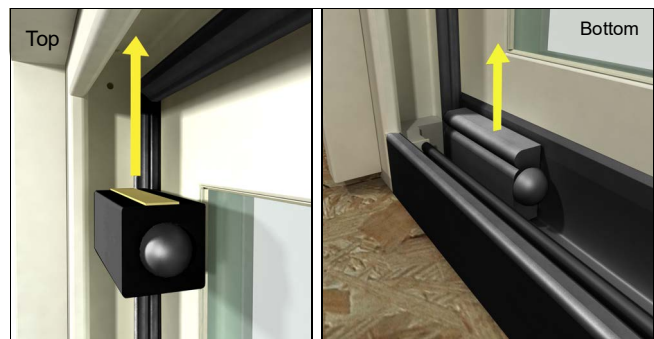

Figure 2
3. To increase the net clear opening, remove both panel stops for the head jamb and sill. See figure 2. Place the "Caution: Pinch Point" label on handle.